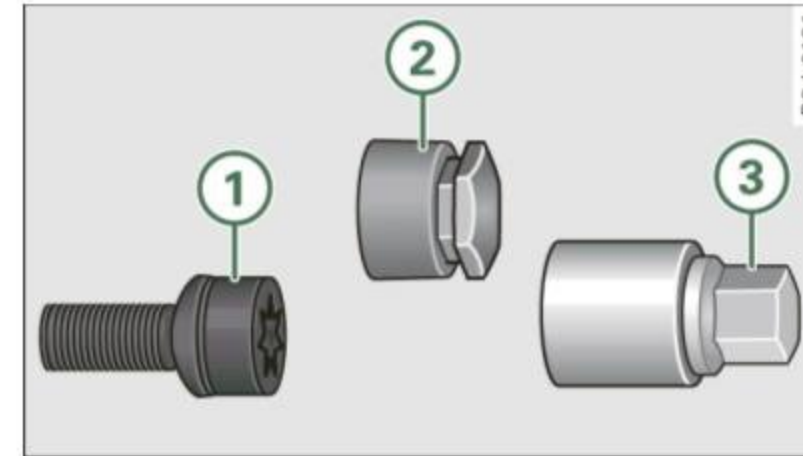

Fig. 205 Anti-theft wheel bolt with cap and adapter
- Remove the cap* ⇒ fig. 205 ② using the plastic clip found in the vehicle tool kit.
- Insert the adapter ③ as far as it will go into the anti-theft wheel ① bolt.
- Push the socket wrench over the adapter ③.